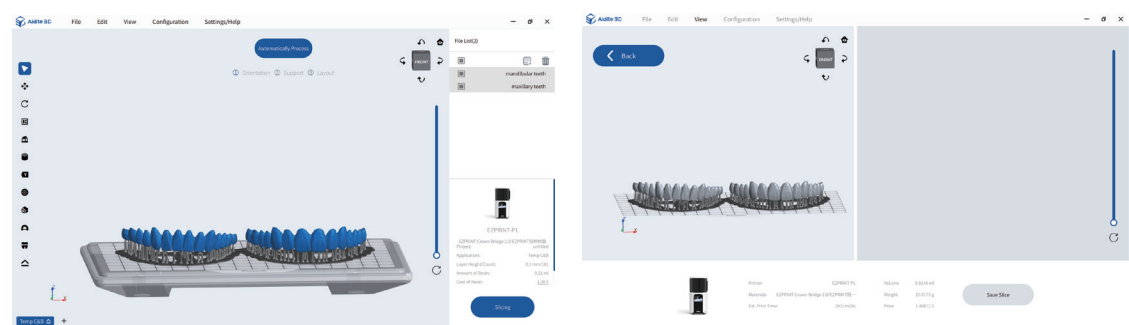

Figure 11
②Save to a USB flash drive or transfer to a folder via WIFI Figure 11.